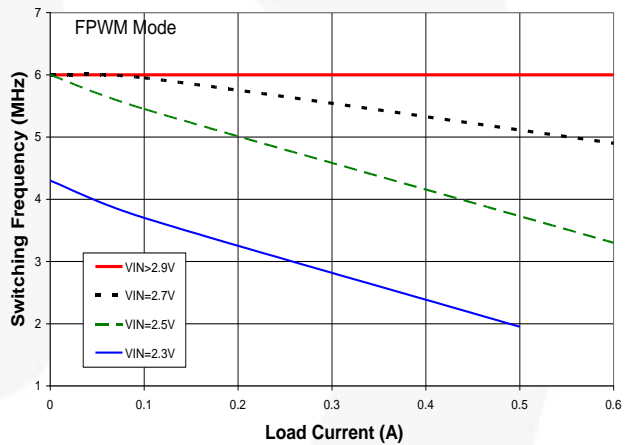
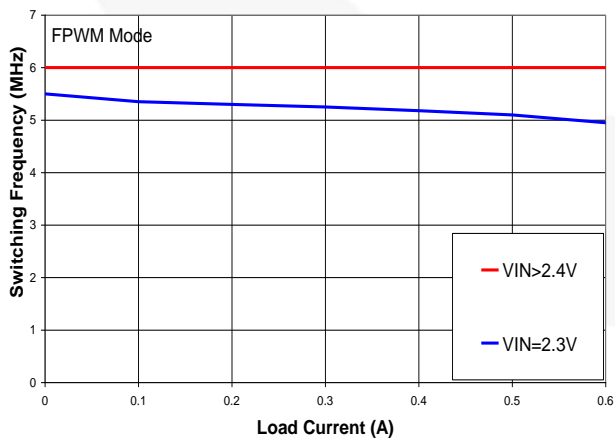

Figure 14. Effect of $t_{OFF(MIN)}$ on Reducing Switching Frequency
Figure 15. 1.233 V_{OUT} Effect of $t_{OFF(MIN)}$ on Reducing Switching Frequency
- Limited by the effect of t_{OFF} minimum (see Figure 14 and Figure 15 in Typical Performance Characteristics).
The switching frequency drops when the regulator cannot provide sufficient duty cycle at 6MHz to maintain regulation. This occurs when V_{OUT} is greater than or equal to 1.82 V and V_{IN} is below 2.9 V at high load currents (see Figure 15).